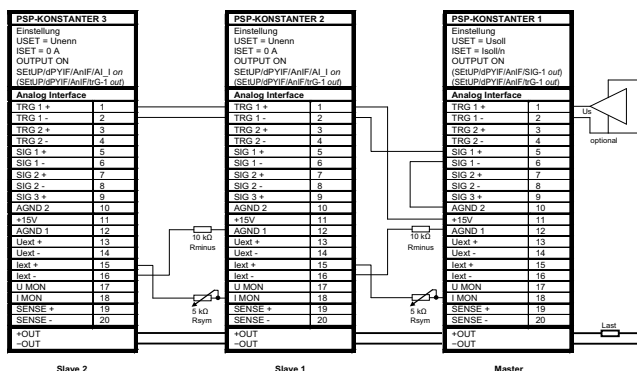

Figure 7.9.2 Wiring for Master-Slave Parallel Connection
- Connect master and slave devices as shown in figure 7.9.2.
- In order to assure that the slaves' OUTPUT ON status is activated along with the master's OUTPUT ON status via the signal output and trigger input circuit as shown in figure 7.9.2, "SETUP/dPYIF/AnIF/SIG-(x1) out" must be selected at the master and "SETUP/dPYIF/AnIF/trG-(x2) out" must be selected at the slaves, (x1) and (x2) in example 1. The master's OUTPUT ON status can be optionally controlled via the trigger input – setting at the master: "SETUP/dPYIF/AnIF/trG-(x3) out", (x3) in example 1.